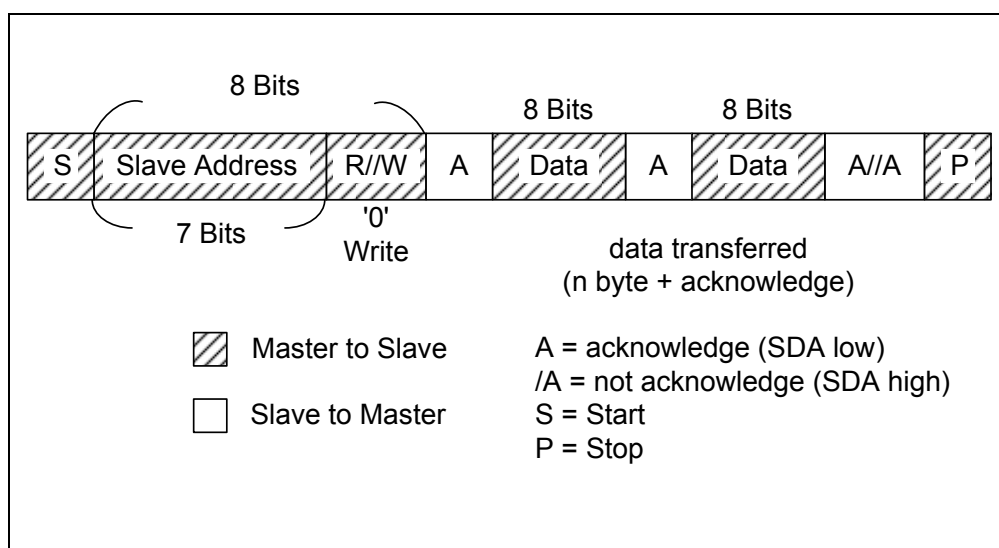
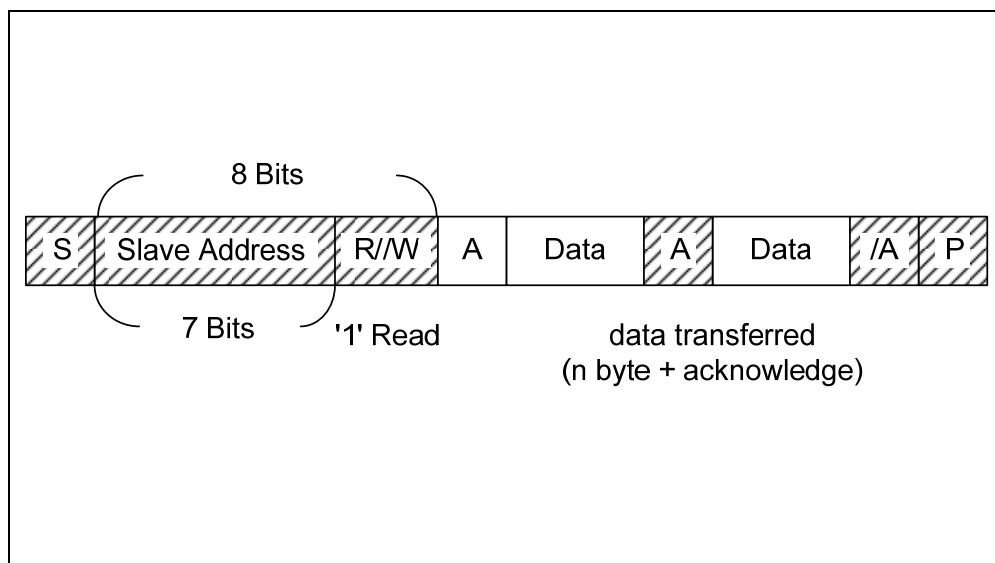

Figure 6-10 7-Bit Slave Address in Master-transmitter Transmits to Slave-receiver
Figure 6-11 7-Bit Slave Address in Master-receiver Reads Slave-transmitter
The Master reads the Slave immediately after the first byte. At the moment of the first acknowledge, the Master-transmitter becomes a Master-receiver and the Slave-receiver becomes a Slave-transmitter. This first acknowledge is still generated by the Slave. The STOP condition is generated by the Master, which has previously sent a not-acknowledge (A). The difference between Master transmitter with Master receiver is only in R/W bit, if the R/W bit is "0", the Master device would be a transmitter, the other way, the Master device would be a receiver. The Master transmitter is described in "Figure 6-10 (7-Bit Slave Address in Master-transmitter Transmits to Slave-receiver)", and the Master receiver is described in the "Figure 6-11 (7-Bit Slave Address in Master-receiver Reads Slave-transmitter)".